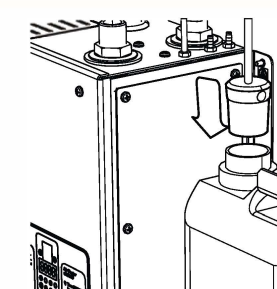

Fig 17b
4. Replace cap with the push-fit cap pre-connected to the soap tube (See figure 17b).